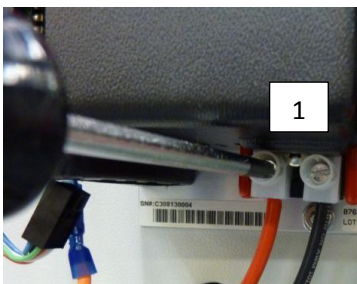

Figure 10
8. Wire the EVSE for power. EVSE red and black wires from the service panel enter through the lower hole and are connected to the GFCI Module (**Figure 9**). Torque the wires to 18.5 in-lb (**Figure 10**).
2. Wire the EVSEs. EVSE red and black wires from the service panel enter through the lower hole and are connected to the GFCI Module (**Figure 9**). Torque the wires to 7 in-lb (**Figure 10**).